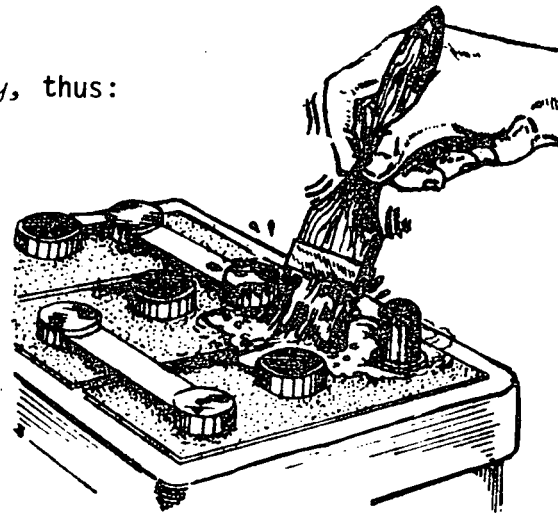

Fig. 1
- b) Clean the battery, tray and clamp. (Fig. 1).